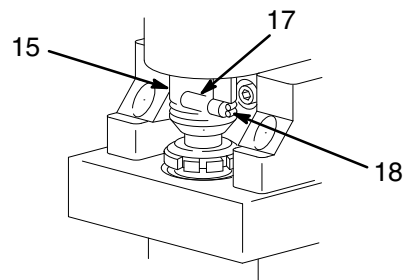
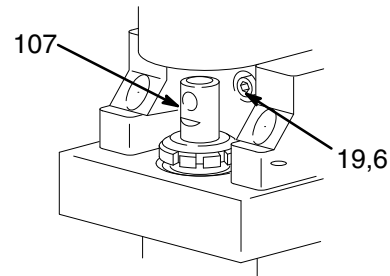
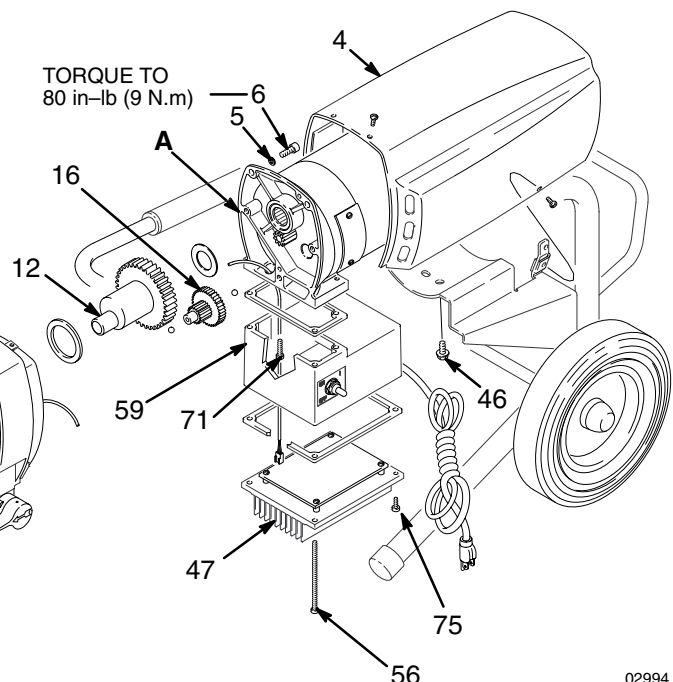

Fig. 24
Fig. 25
Fig. 26
NOTE: See Fig. 26 except where noted.
2. Remove the motor shield (4).
3. Try to stop the pump with the piston rod (107) in its lowest position. To lower the piston rod manually, rotate the motor fan blades. Use a screwdriver to push the retaining spring (18) up and push out the pin (17). See Fig. 24.
4. Remove the shroud (4).
5. Lift the connecting rod. Remove the screws (56,75) and lower the control card (47). Disconnect the motor wires and the pressure transducer wire (A) from the motor control board. Refer to Fig. 26.
6. Remove the drive housing cover (13). Remove the control card (47), screws (71), and junction box (59).
7. Turn the displacement pump rod (107) so the pin hole aligns with the bottom drive housing screw (19). See Fig. 25. Remove the three drive housing screws and lockwashers (19,6). See Fig. 25 and 26.
9. Tap the lower rear of the drive housing (11) with a plastic mallet to loosen the motor. Pull the drive housing straight off the motor while guiding the harness (A) from the motor. Do not allow the gear (16) to fall. Read the CAUTION on page 30.
10. Remove the two screws (46) and lift the motor off the cart (1).
11. Align the new motor with the cart and reinstall the screws (46).
1. Remove the screws (56,75) and lower the control card (47). See Fig. 26.
1. Remove the screws (56, 75) and lower the control card (47). See Fig. 26.